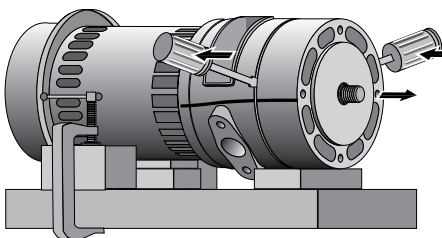

Figure 21
- Step 10. Carefully tap a small screwdriver or thin bladed chisel in between the intermediate volute and the pump adapter in two or three places around the pump to separate the castings (Figure 21). *Do not mar the sealing surfaces; do not break pieces out of the adapter or volute – the castings are easily damaged.*